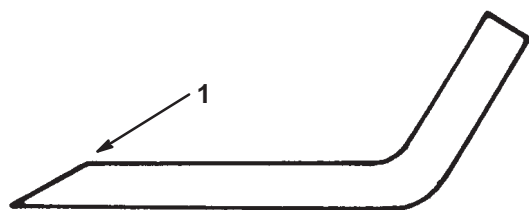

Figure 34
1. Use a file to sharpen the cutting edge at both ends of the blade (Fig. 34), maintaining the original angle.